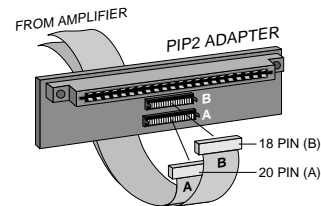

Fig. 3.4 PIP2 Input Adapter Connection
5. **Remove the existing P.I.P.** or cover panel from the amplifier back panel (two screws). For PIP2 amplifiers this may involve disconnecting the P.I.P. from a PIP2 input adapter (Figure 3.4). If a PIP2 input adapter is already present, do not remove the ribbon cables from the adapter. Otherwise you will have to reconnect them in Step 9.